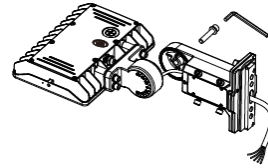

Fig. 14
2. Pass the cable through the first of bracket (Fig. 14).